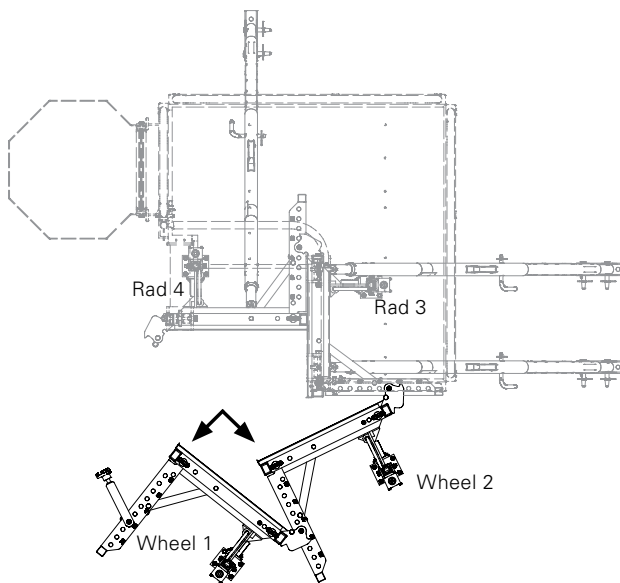

Fig. A5.04
2. Loosen the push-pull props and open formwork until the second unit is released from the concrete. Secure with bolt  $\text{Ø } 20 \times 140$ . (Fig. A5.04)
- Important: pay attention to the order! Wheel 1 - 4. (Fig. A5.04)